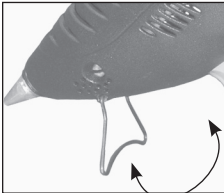

Figure 6
4. After starting, pull out stand and place the gun upright (Figure 6).